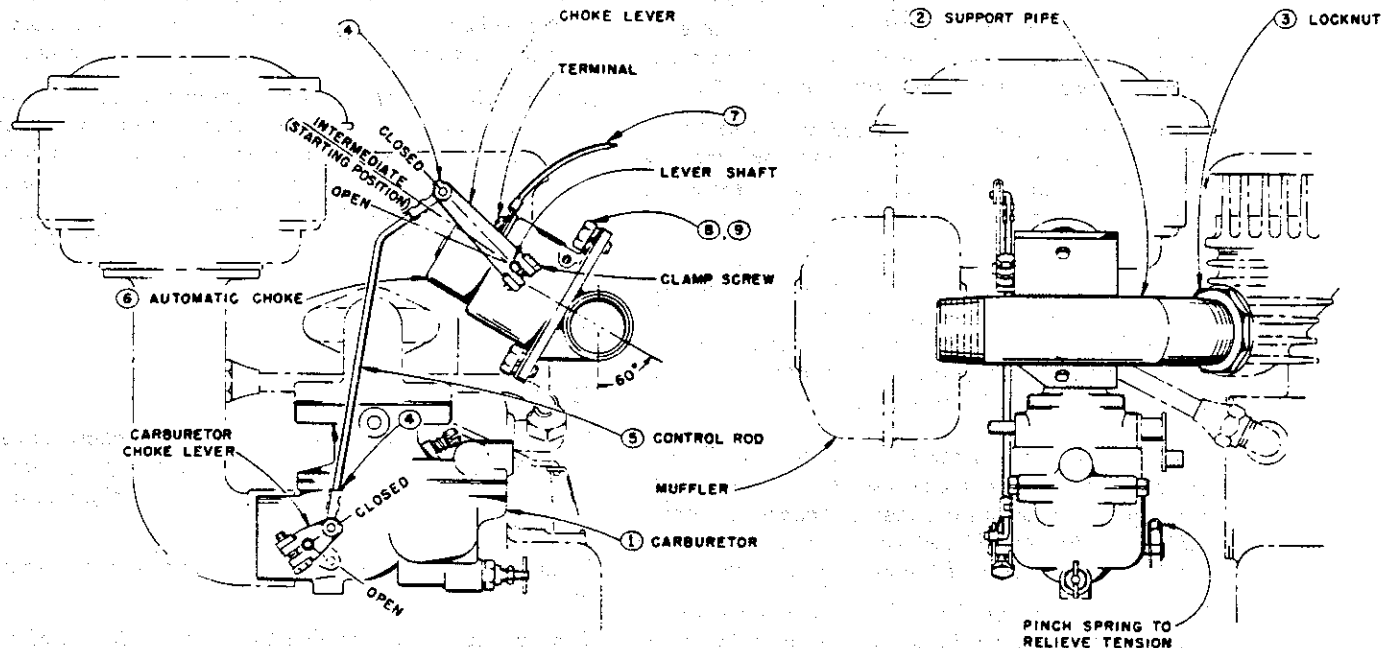

Fig. 1
- c. Pull up on **control rod** (5) Fig. 1, so that the **carburetor choke lever** is in the upper, or **closed position**. Retain rod in this position.
- d. Rotate **automatic choke lever** until hole at end of lever lines up with bent end of control rod. (Rod pulled up in closed choke position). Mount control rod to lever by means of **retaining clip** (4).